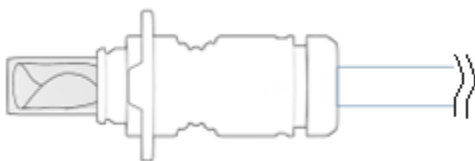

Figure 6. Inspection of Implant (within loading cannula).
- Visually check the integrity of the implant (within the loading cannula); there should be no creases, folds or tears, see Figure 6.